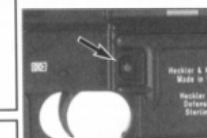

Fig. 21
2. Depress the magazine release button with the right index finger or thumb (Fig. 21). Remove the empty magazine from the magazine well. Store the empty magazine in a magazine pouch.